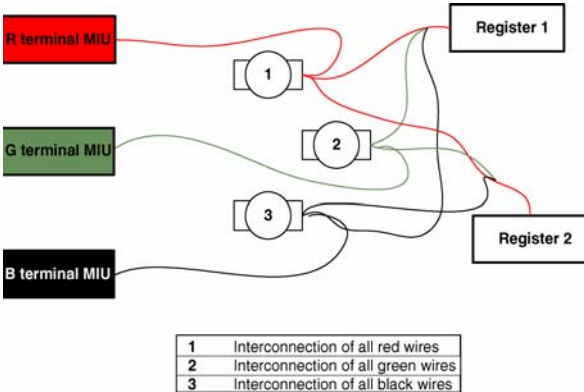

Figure 9 Interconnection of Like Terminals
- 1 Connect each color wire with the appropriate color wire from the pigtail and both Dual R900 MIUs as illustrated in Figure 9, until all three colors have been successfully connected. Refer to “Installation Instructions for Single Receptacle/MIU” on page 3 for proper installation techniques.
- Observe proper polarity when wiring the registers so that all terminals are interconnected with other of the same color: red, black, or green. Refer to Figure 9.